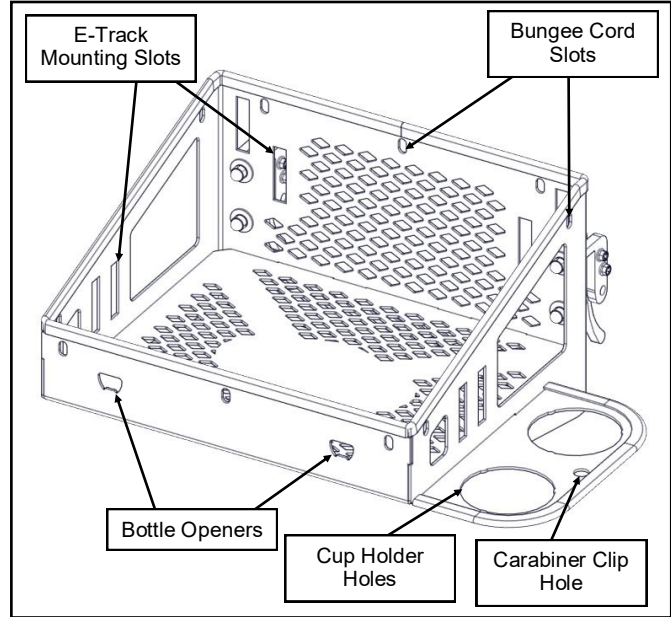

Fig. 1 (mounting point options)
1. The beverage cooler holder features include many E-Track slots, bungee cord holes, bottle openers, cup holders and even a carabiner clip hole for a carabiner mounted accessory (for example: a Bluetooth speaker). See fig. 1.